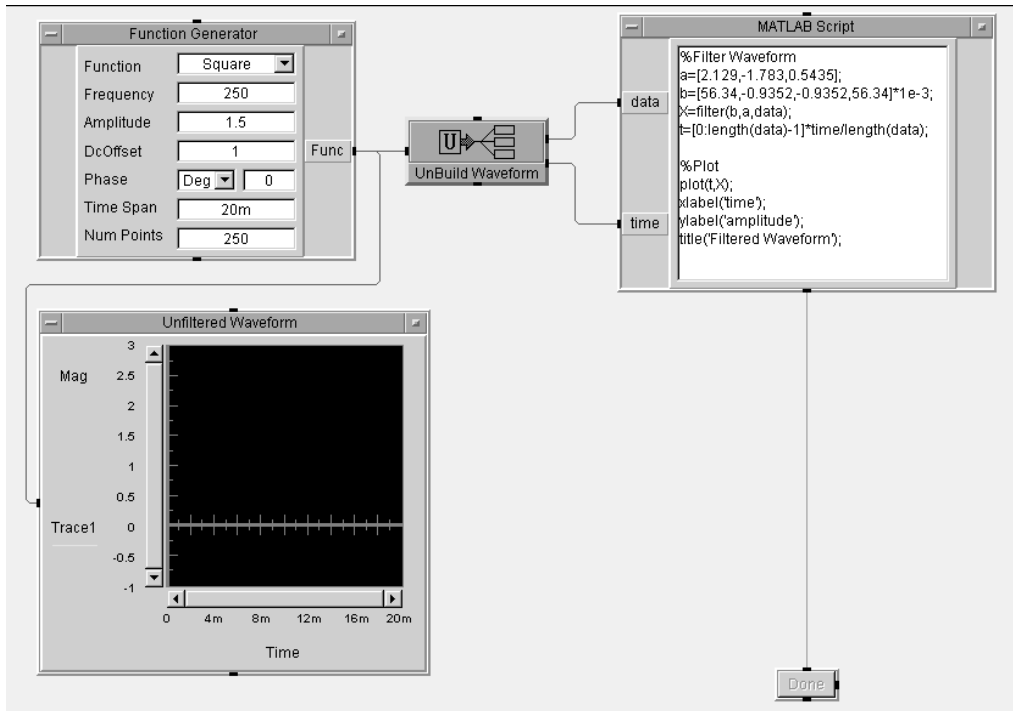

Figure 17.11. LAB 17.5 before running
11. Select Menu Bar => Flow => Confirm (OK); place it below MATLAB Script; change its title bar to: Done.
12. Connect the Done button to the bottom terminal of MATLAB Script. See Figure 17.11.